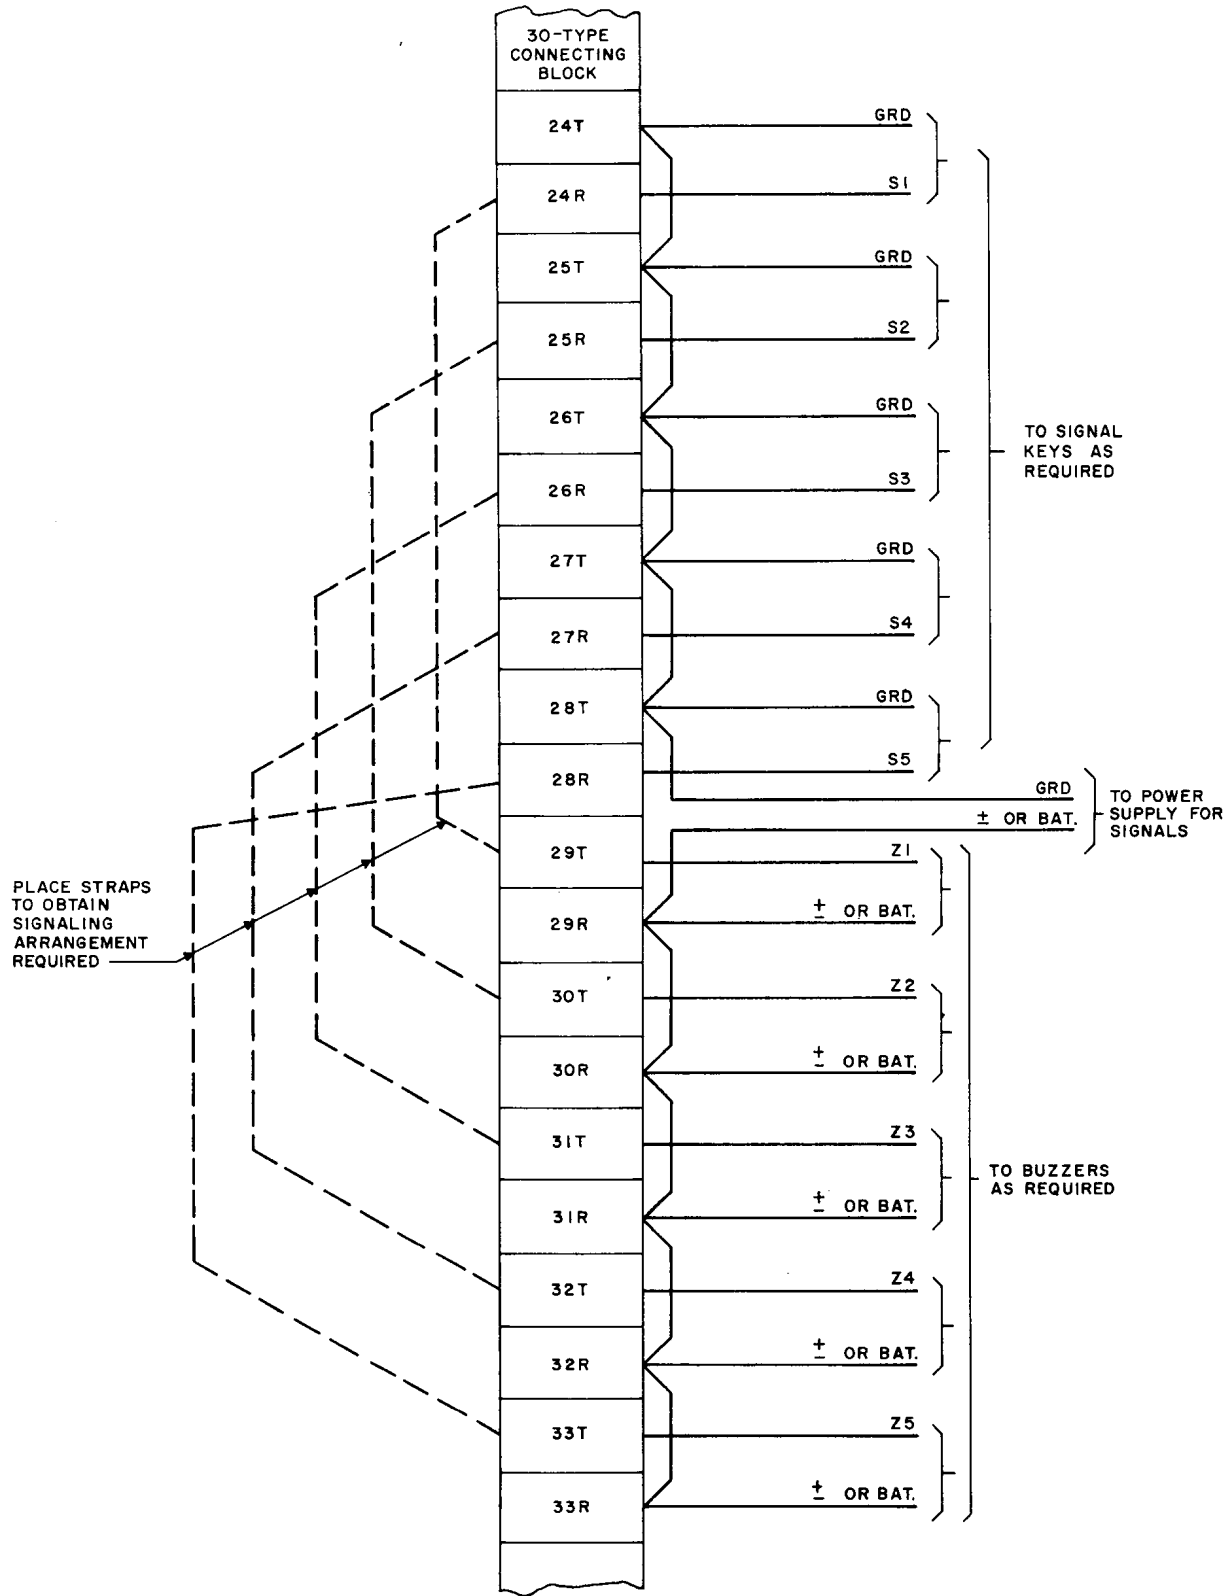

Fig. 3 — Connections for Manual Signaling When Dial Selective Intercommunicating Circuit Is Not Used
3.03 Fig. 3 gives an arrangement for manual signaling for five pushbuttons and five buzzers when the dial selective intercommunicating line circuit is not provided.